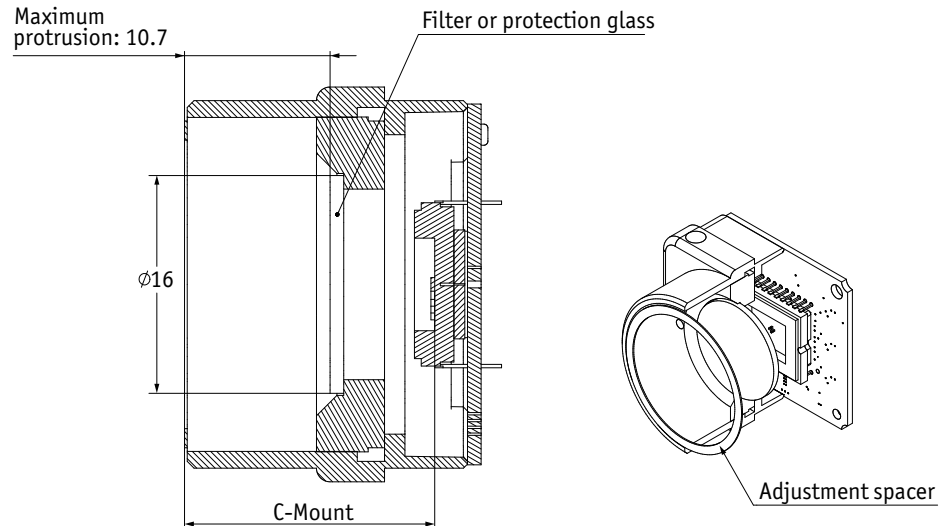

Figure 22: Guppy PRO C-Mount dimensions
Lens mount	Adjustable C-Mount: 17.526 mm (in air); Ø 25.4 mm (32 tpi) Maximum protrusion: 10.1 mm (see figure 22: on page 72)
- Mount only lenses or objects with less than 10.7 mm for maximum protrusion, see Figure 22.
Temporarily, a different filter holder was used. With V4.2.3 of this document, manufacturing returns to the previous filter holder. By mistake, Figure 22 was not updated for the temporary change. Therefore, it reflects the current state.
Please observe that maximum protrusion has temporarily been 13.2 mm. The **current value is 10.7 mm** as shown in Figure 22.